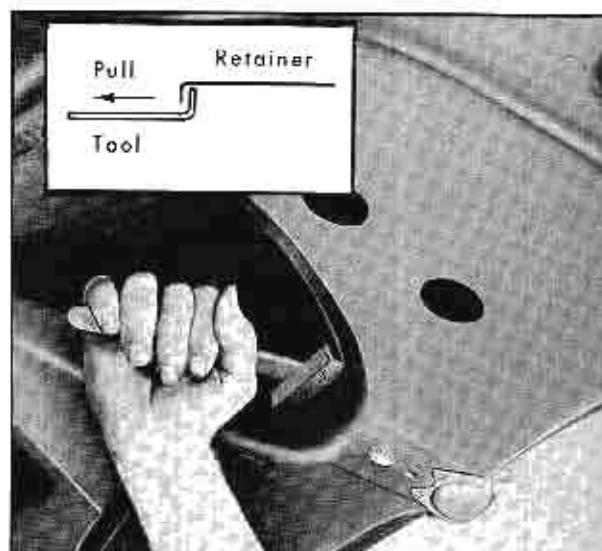

Fig. 3-84 Removing Deck Lid Lock Cylinder Retainer
1. Through the opening in rear compartment lid inner panel, Fig. 3-84, insert a suitable hooked tool to pull the lock cylinder retainer away from the lock cylinder.